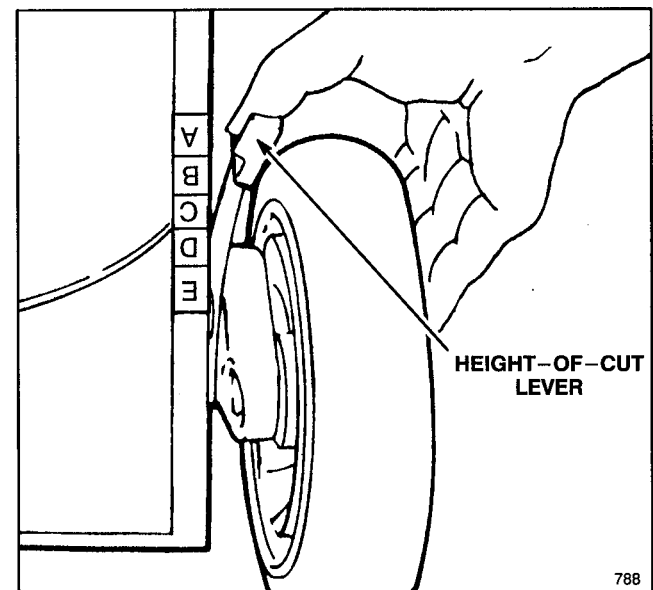

Figure 11
**3.** Squeeze the mower's height-of-cut lever toward the wheel and move it to the corresponding color/letter on the mower housing (Fig. 11). For easier adjustment, lift housing up so wheel is off ground. **Do not put fingers under housing when lifting.** Ensure pin on height-of-cut lever engages slot in housing. Adjust all wheels to the same color/letter setting.